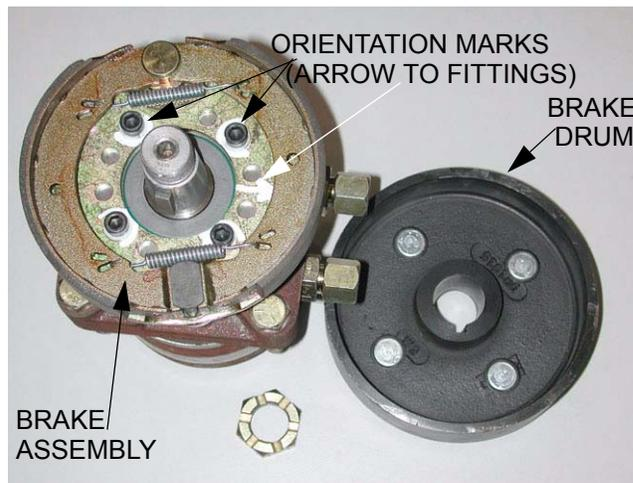

Figure 6.20
6.20. Remove the castle nut and brake drum from the axle. See Figure 6.20.